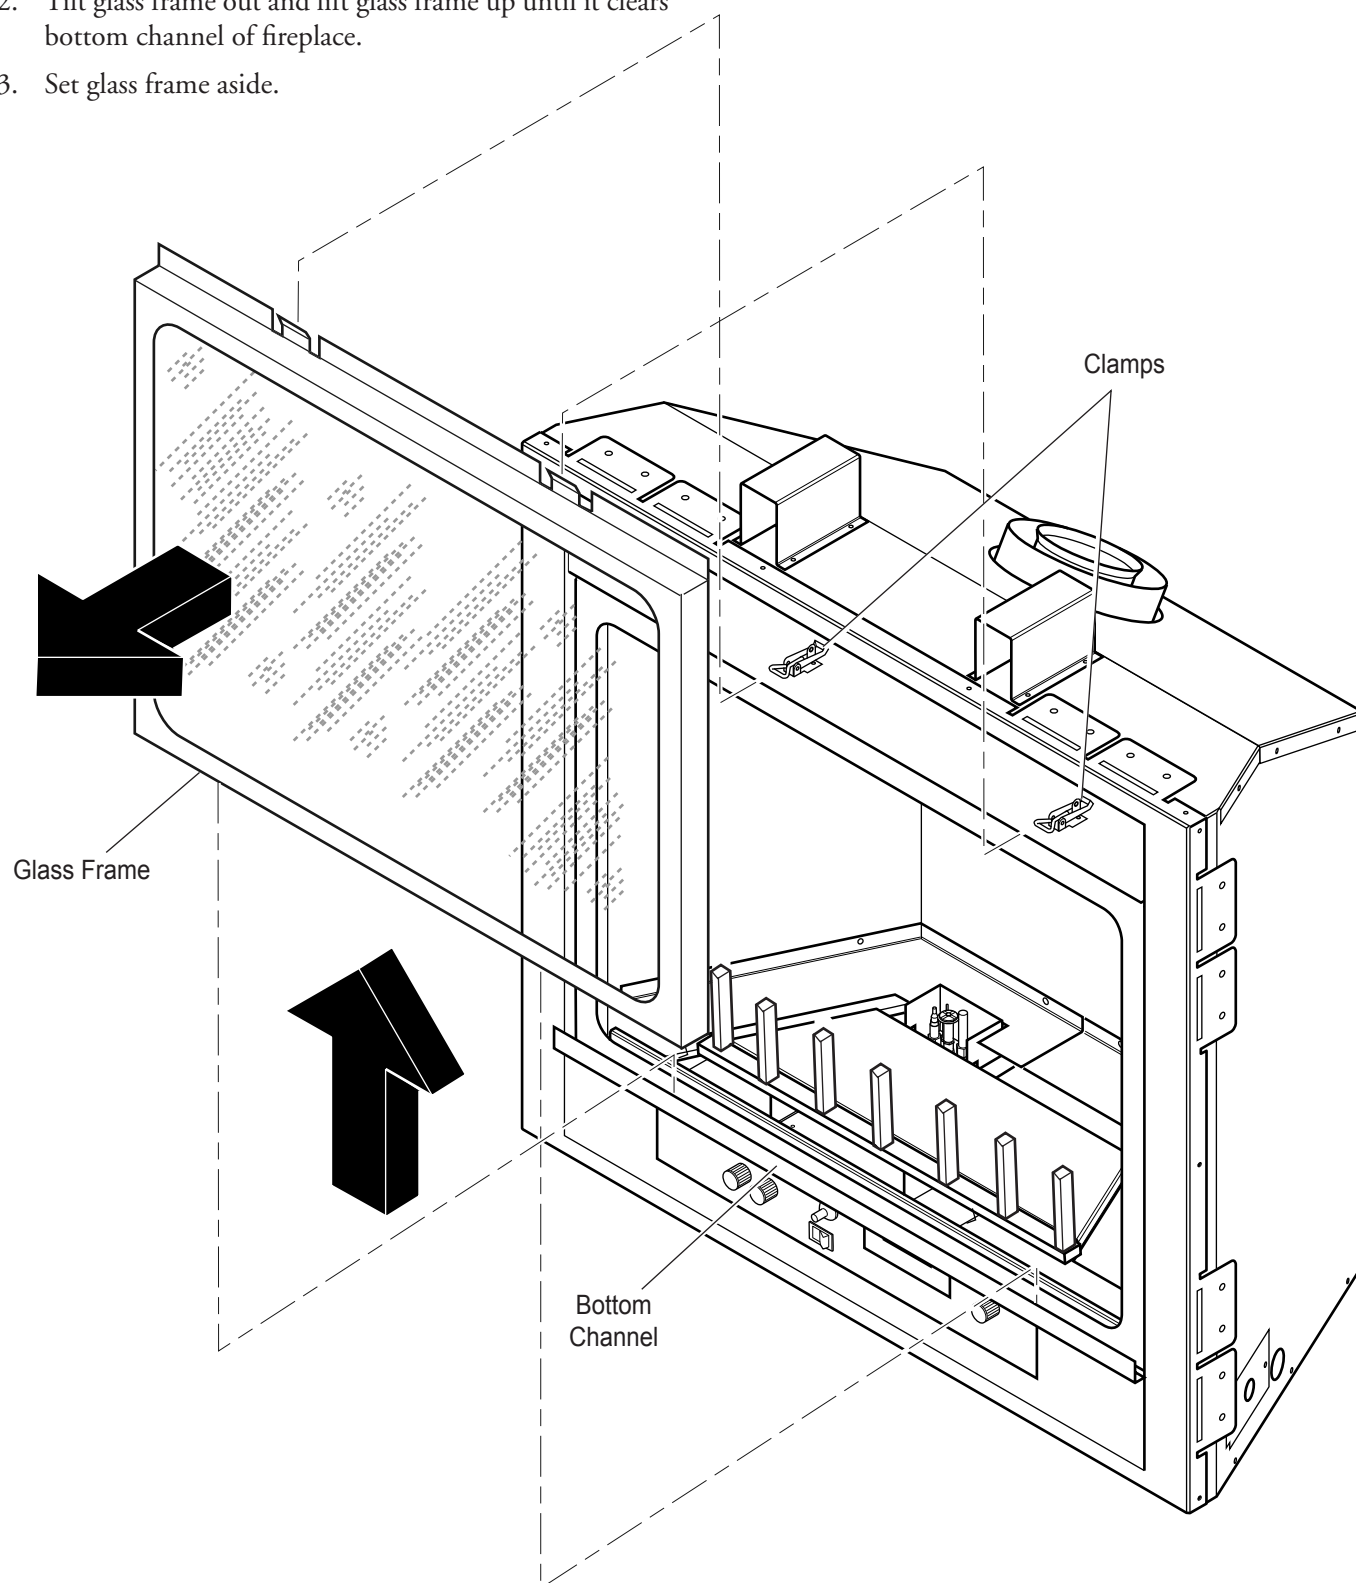

Figure 36 - Removing Glass Frame
1. Release two clamps on top of fireplace. *See Figure 36.*